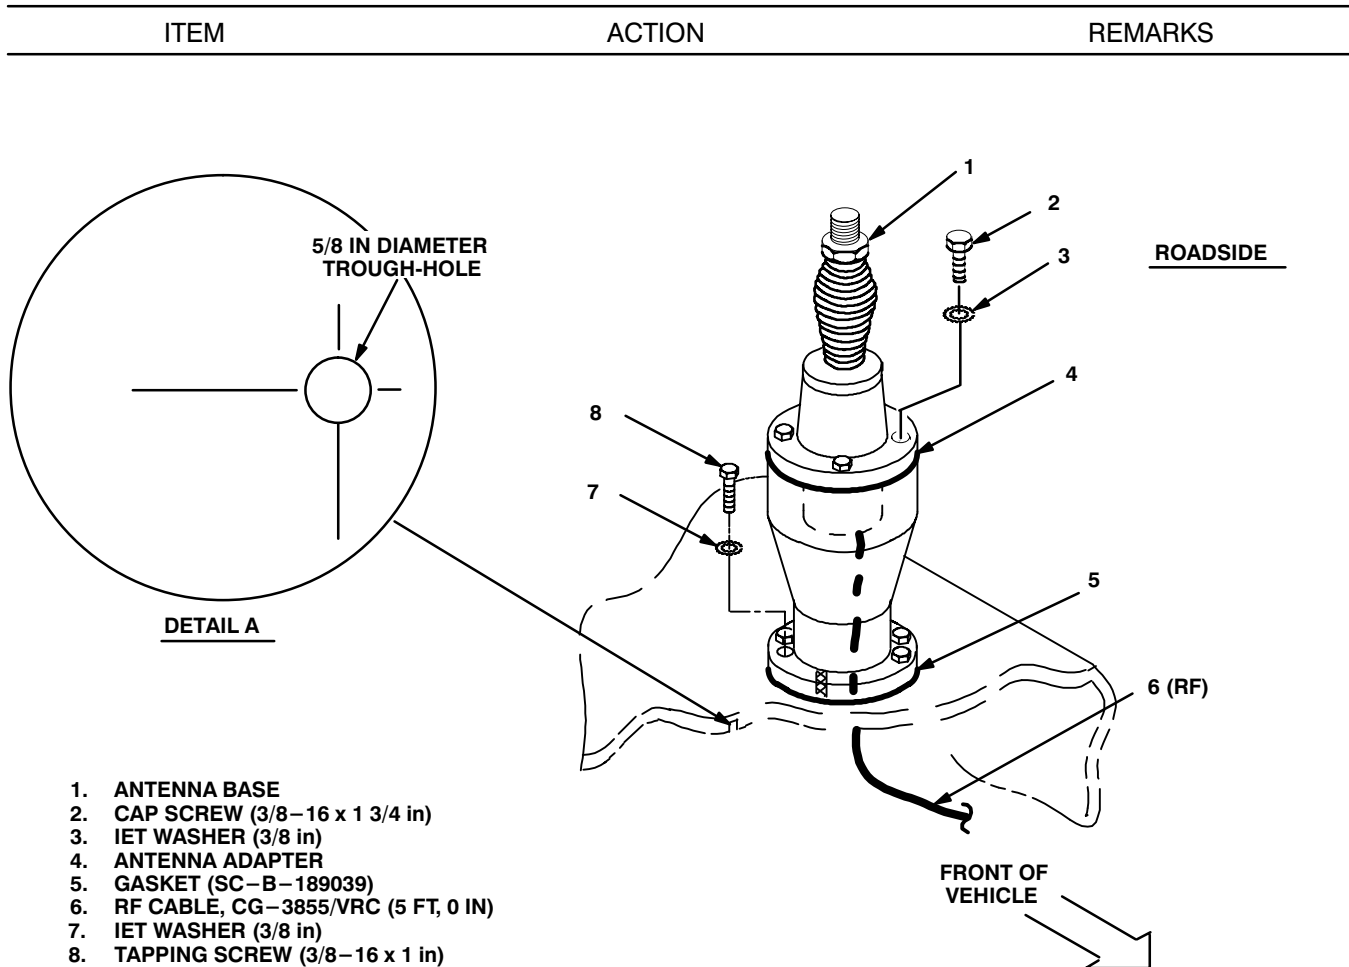

Figure 5–2 (2). Rear Antenna Base Installation: Installing Antenna Base
| f. RF cable (6) connector P1.                    | From inside vehicle, insert through antenna adapter (4) to exterior of vehicle; then connect and secure to antenna base (1) connector J1. See Figure 5–2 (2).                       |                        |